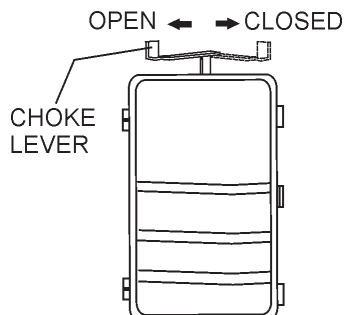

Figure 11. Choke Lever
2. Place the **choke lever** (Figure 11) in the "CLOSED" position if starting a **cold** engine.
3. Place the **choke lever** (Figure 11) in the "OPEN" position if starting a **warm engine** or the **temperature is warm**.
- If the engine has started, slowly return the choke lever (Figure 11 ) to the **"OPEN"** position. If the engine has not started repeat steps 1 through 5.